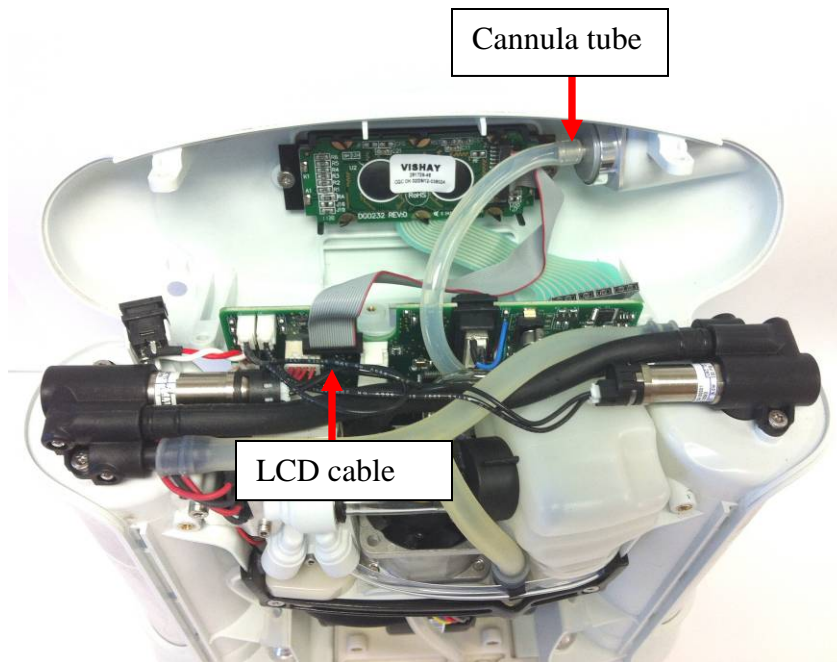

Figure 8: Remove cannula tube and LCD cable
8. Gently unplug the cannula tube from the user interface panel and the power cable from the motherboard (Figure 8) and set the user interface panel aside.